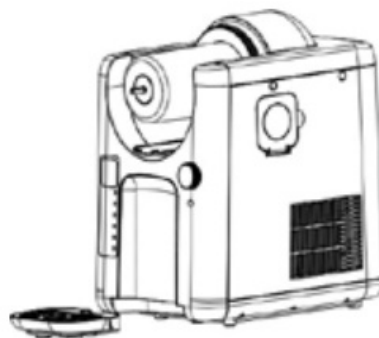

Fig. 10
17. Pull the drip tray out of the appliance, empty the tray, and clean the tray and drip grate in warm water with a little washing-up liquid (Fig. 10).